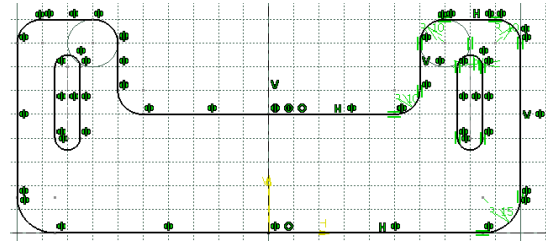

Figure 3-72 The sketch after mirroring
3. Select the vertical axis; the sketch is mirrored to the other side of the selected axis, as shown in Figure 3-72.